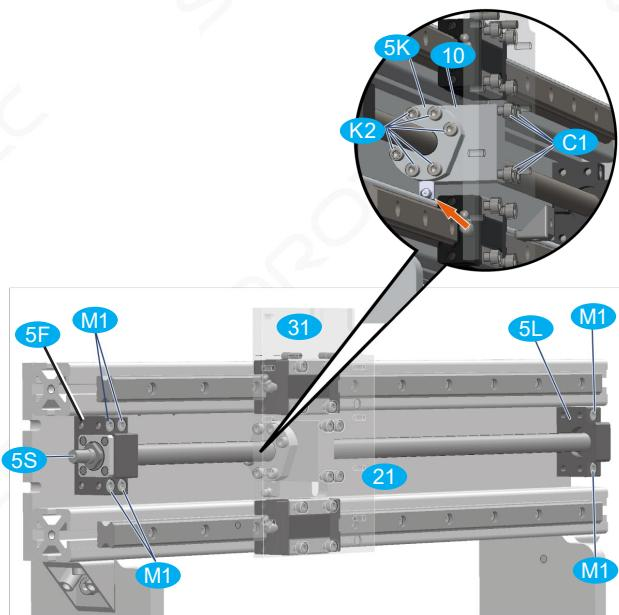

Fig. 28: Assembly of flange bracket and Y-slide
- Guide the pre-assembled Y drive 5 behind the Y carriage as shown in Figure 28. Screw the floating bearing 5L with 2 and the fixed bearing 5F with 4 cylinder screws M1 to the portal beam; Tighten screws slightly.